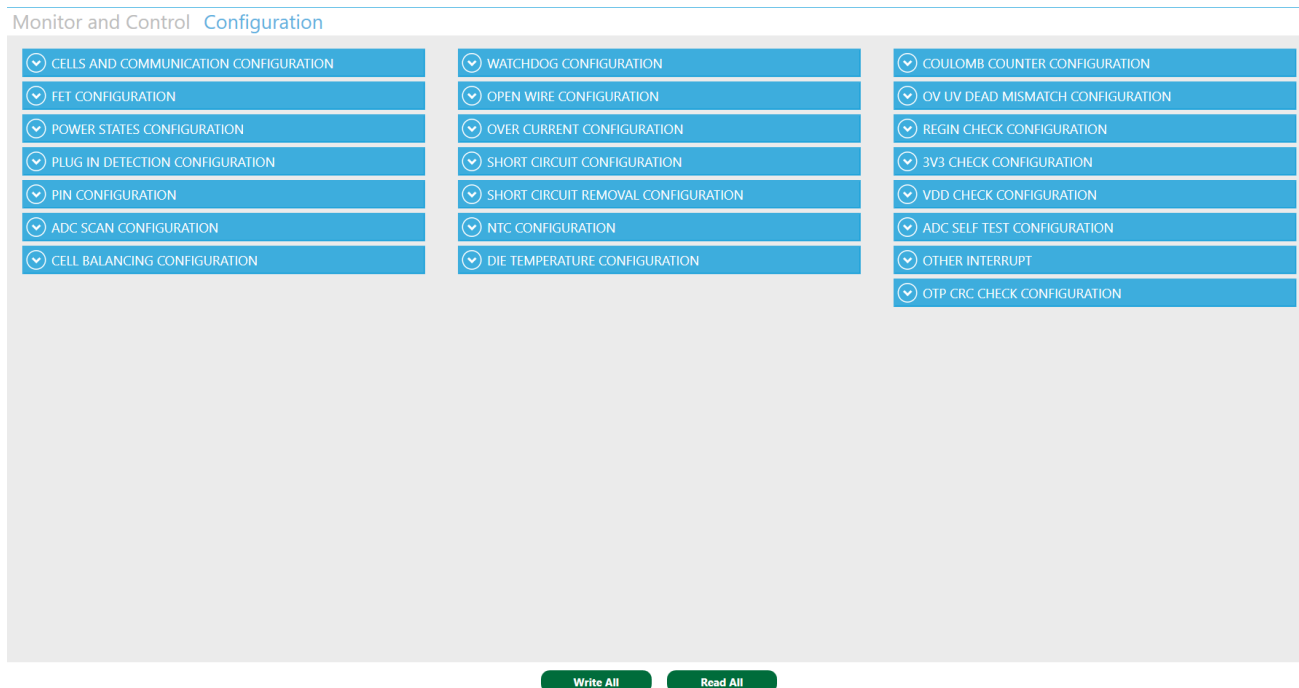

Figure 9: Configuration View
1. Click the “Configuration” tab to view the configurations (see Figure 9). The software should automatically read all the configurations. Items with a lock symbol can be configured to be read-only.